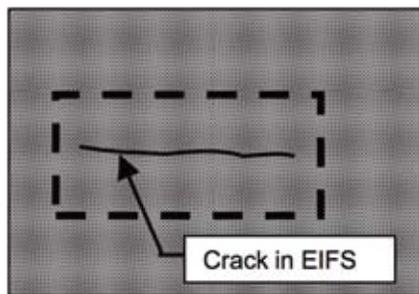

Fig. 1
1. Mark the crack location in preparation for removal of the EIFS finish (Fig. 1).